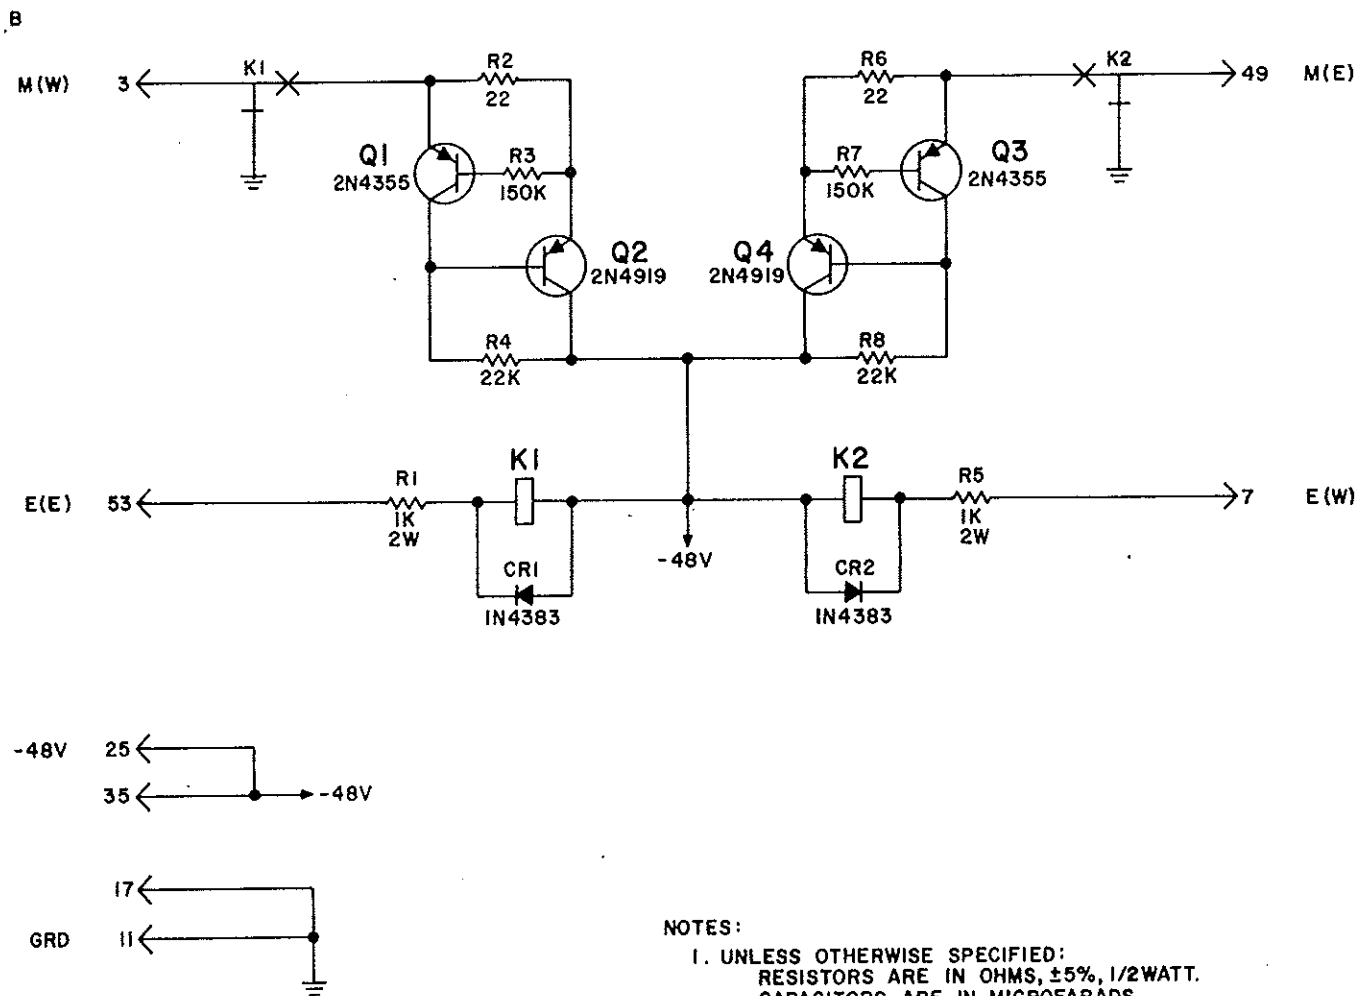

Figure 2. 734 Pulse Link Repeater Schematic Diagram (Issue 2)
2.01 The 734 Pulse Link Repeater consists of two identical current limiting circuits. One circuit (Q1-Q2) controls M-lead (W) and E-lead (E) signaling and the other circuit (Q3-Q4) controls M-lead (E) and E-lead (W) signaling. Since the circuits are identical, operation of Q1-Q2 will only be explained. Refer to the schematic diagram in Figure 2.